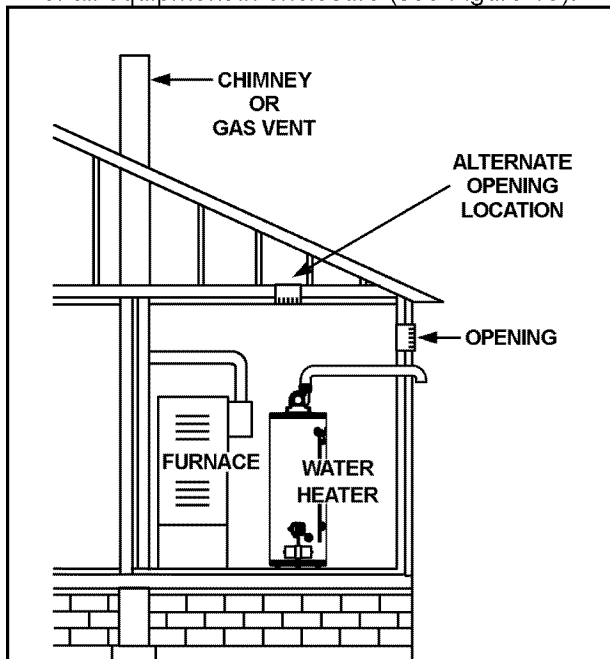

Figure 19
5. Alternatively a single permanent opening may be used when communicating directly with the outdoors, or with spaces that freely communicate with the outdoors. The opening shall have a minimum free area of 1 square inch per 3,000 Btu/hr (7.3cm²/kW) of total input rating of all equipment in enclosure (see Figure 19).